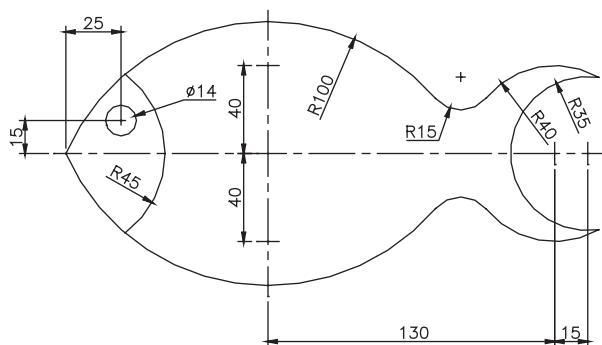

Figure 22.5 C:\MYCAD\FISH information for Activity 30.
- a) Refer to Figure 22.5 and create the fish design using the sizes given.